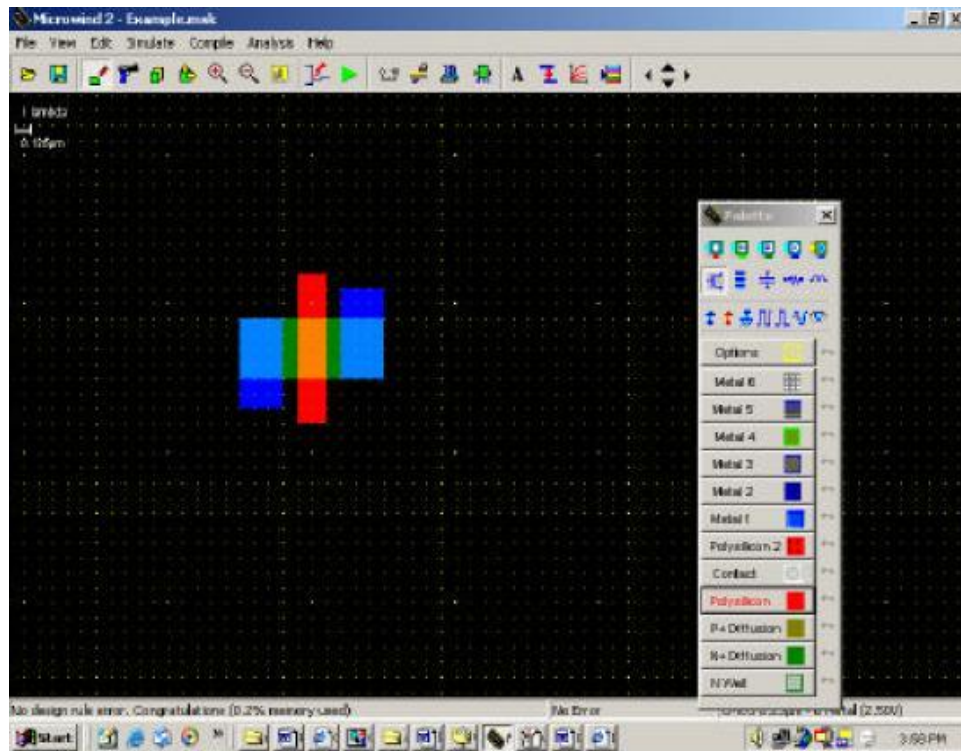

Figure 10: Metal1 shown on N+ diffusion
5. Select metall from palette window. Draw it on the N+ diffusion separately in order to make ohmic contacts to the Source and Gate of the NMOS transistor. This shown in figure 10.